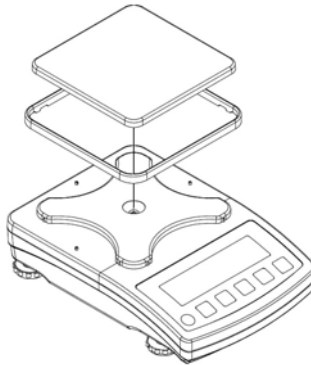

Figure 4. Scale assembly
- Install the weighing pan and the draft shield, follow figure 4.